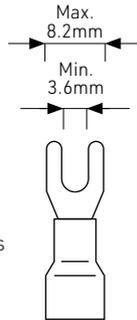

Figure 4: Fork Terminal Dimensions
Up to 14 loads may be connected. Loads are attached using female spade Quick Connects (QC). See *Figure 4: Quick Connect Dimensions*.
Figure 4 details connection of the caravan battery to the BatteryPlus35-II.